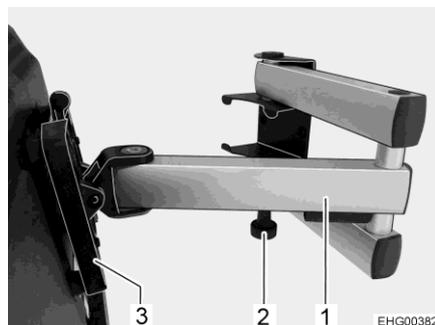

Fig. 77 Holder (two-piece jointed arm)
- Pull the release knob (Fig. 77,2). The jointed arm (Fig. 77,1) is unlocked.
- Turn the flat screen back into the original position until you hear the holder (Fig. 77,3) engage in the lock.